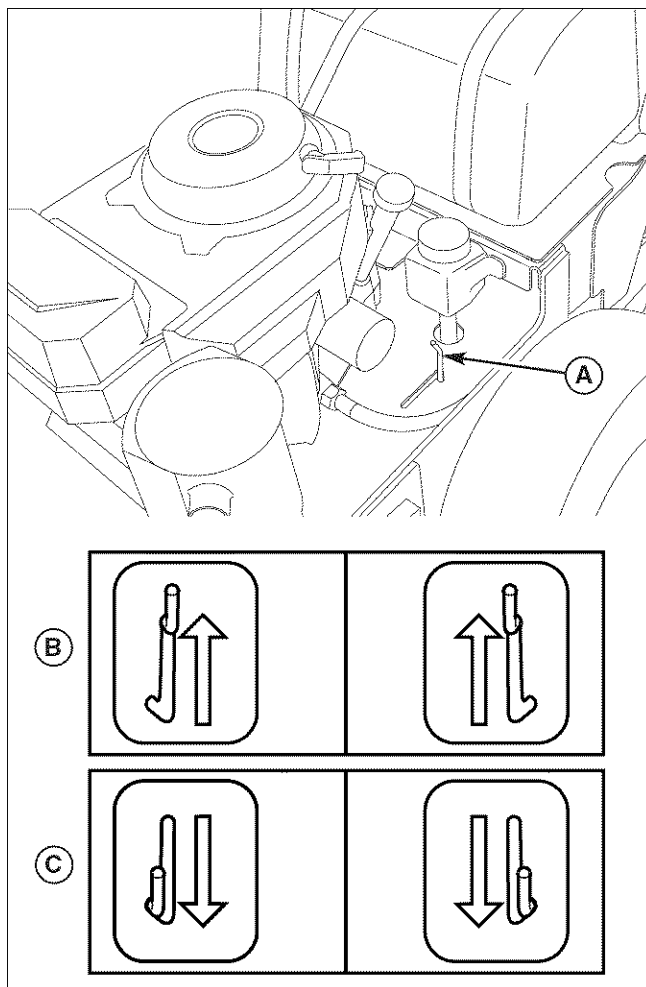

Figure 5. Transmission Release Levers (LH Shown)
2. Locate the transmission release levers (A, Figure 5) by the rear wheels of the unit.